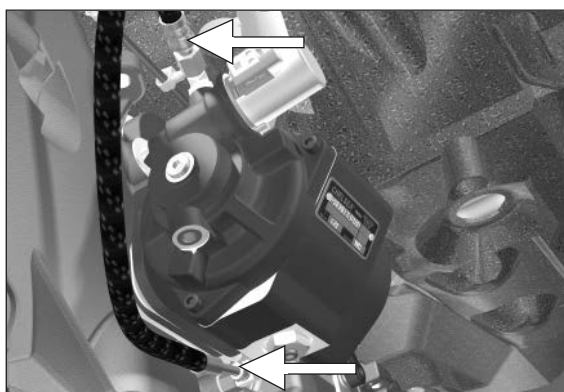

Figure 36
15. Connect hose (Transmission-to-PTO Valve) to the fitting on the transmission. Route as shown in **Fig. 36**. Hold hose fitting in desired position and tighten lock nut with a wrench until solid feeling is encountered. From that point, apply one-sixth turn. Next, connect the other end of the hose to fitting on the PTO valve cap. Tighten until solid feeling is encountered. From that point, apply one-sixth turn.